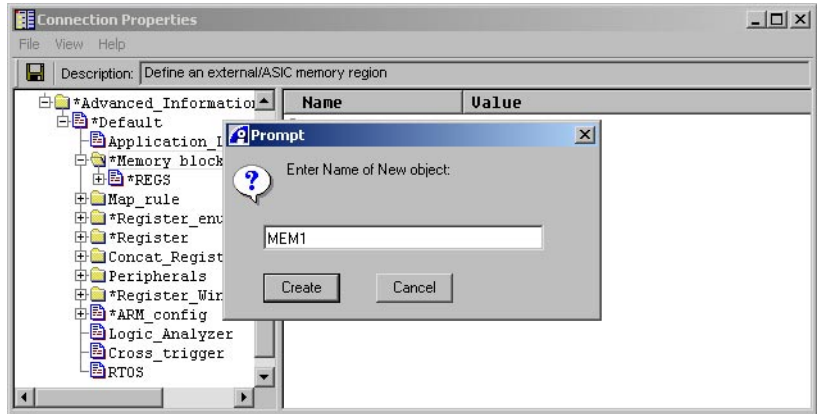

Figure 3-34 Creating a new memory block
5. Right-click on the REGS entry, in the left pane, and select **Make New...** from the context menu to see the prompt shown in Figure 3-34.